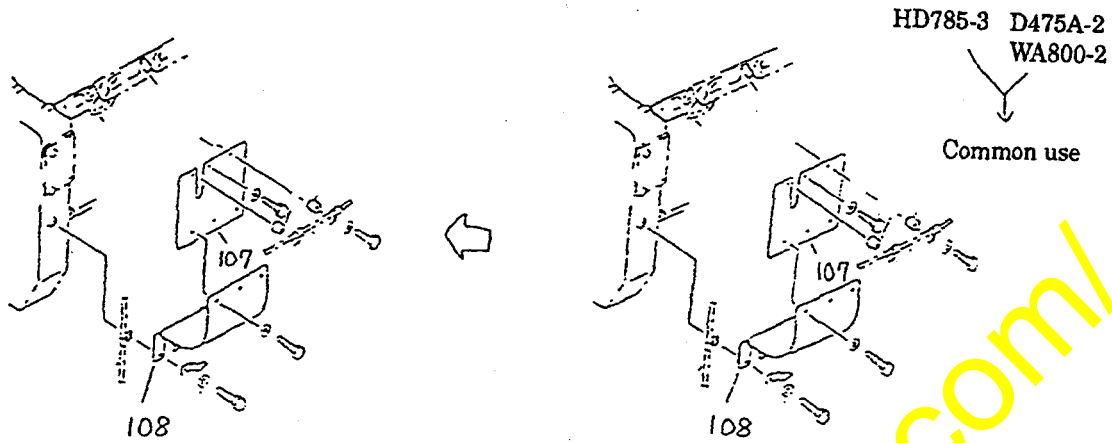

Fig. 48
(This drawing is the same as Fig. 48.)
⑮ Common injection pump coupling cover on WA800-2 (Fig. 48)